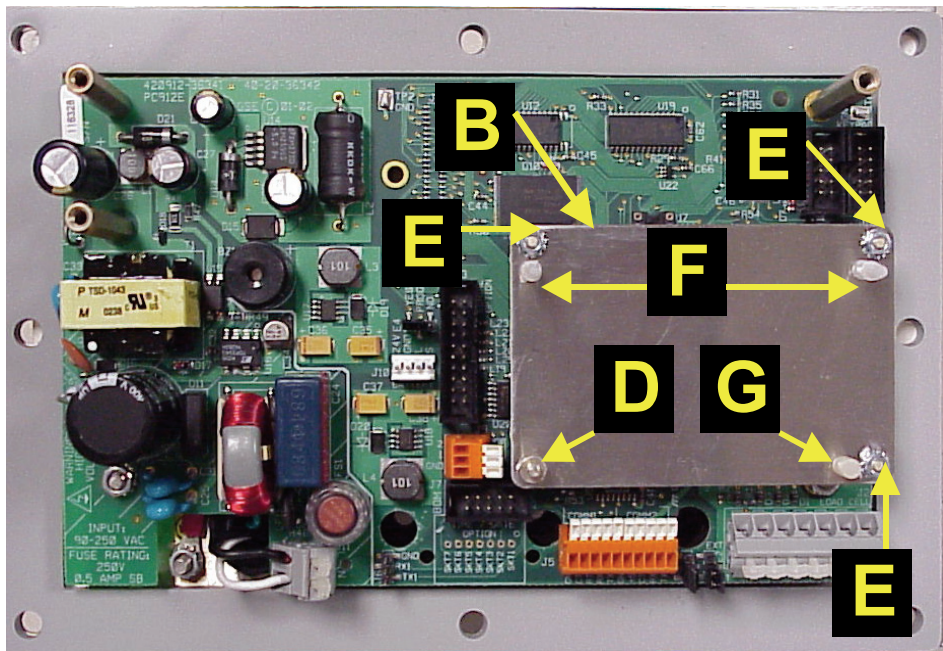
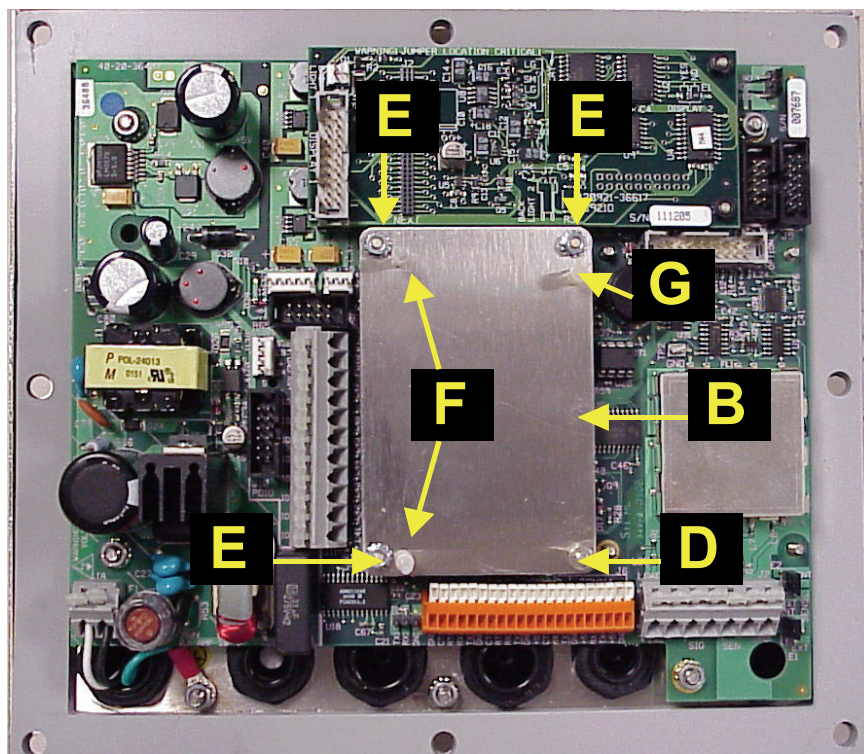

Figure 5: Installing the Option-Mounting Bracket (B), Model 460/465
Figure 6: Installing the Option-Mounting Bracket (B), 560 and 660 Series
4. Place the option-mounting bracket (B) over the 14mm standoffs (C) and fasten with three 5.5mm nuts (E) as shown in *Figure 5* and *Figure 6*.
5. Install the two double-ended spacers (F) into the holes located below the two 5.5mm nuts (E) as shown in *Figure 5* and *Figure 6*.
6. Install the single ended nylon spacer (G) into the last empty hole as shown in *Figure 5* and *Figure 6*.
7. Screw the 5/16" metal standoff (D) onto the remaining 14mm standoff (C). The standoff (D) should be on the bottom side of the module bracket as shown in *Figure 5* and *Figure 6*.